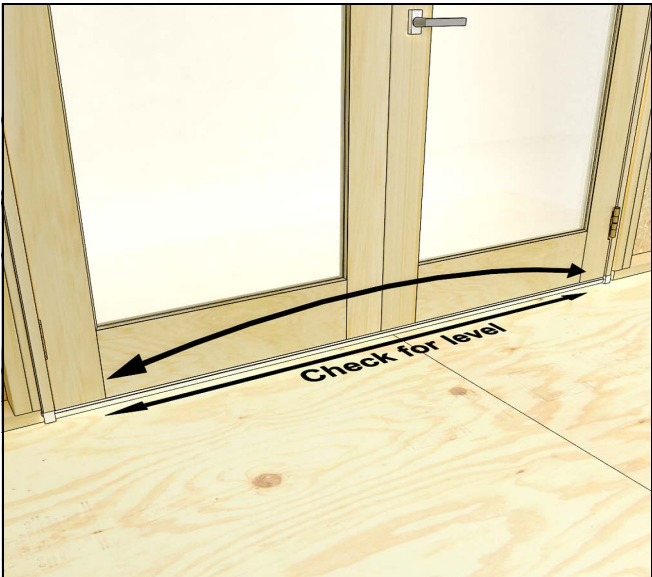

Figure 3 Start with a clean flat sill
3. Check the bottom surface of the opening to ensure it is flat, level, and free from debris. Proper operation of the door requires a sill that is flat and level. See Figure 3